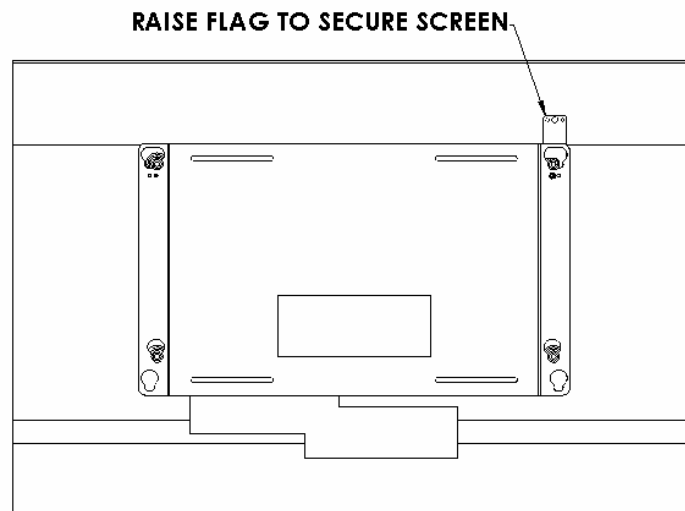

Figure 5
5. With the aid of another person, lift your display up to the mount, align the mounting buttons on the display with the teardrop slots in the mount, and set the display into place (see Figure 5).